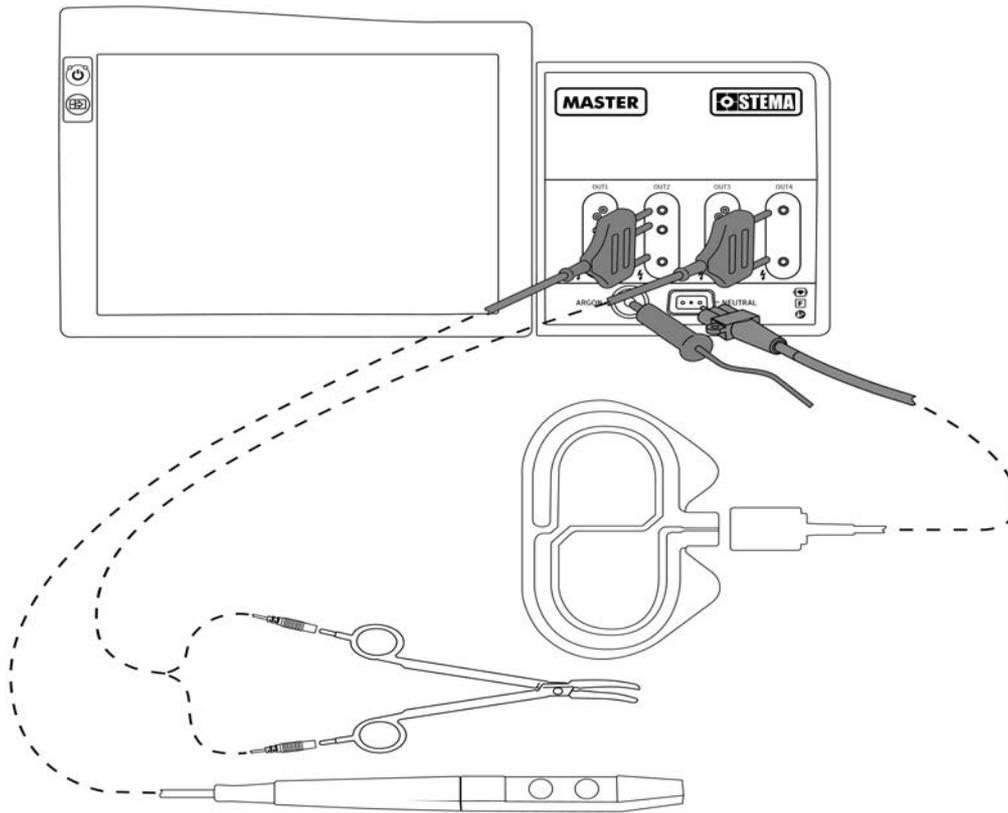

Figure 8. Method of connecting accessories to outputs 2 (monopolar) and 4 (bipolar) in the STEMA MASTER system
The method of connecting the footswitches and the power cable is presented in **Fig. 8** where:
The method of connecting **accessories** to the monopolar output (**Fig. 1 item 2**) and the bipolar output (**Fig. 1 item 4**) is explained in **Fig. 8**.